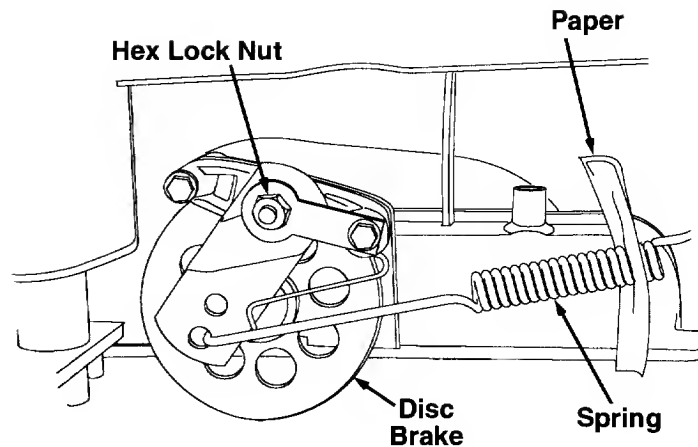

FIGURE 20.
BRAKE ADJUSTMENT (See figure 20)
2. Working on the right side of the tractor, try inserting a piece of paper through the coils of the brake spring. See figure 20.